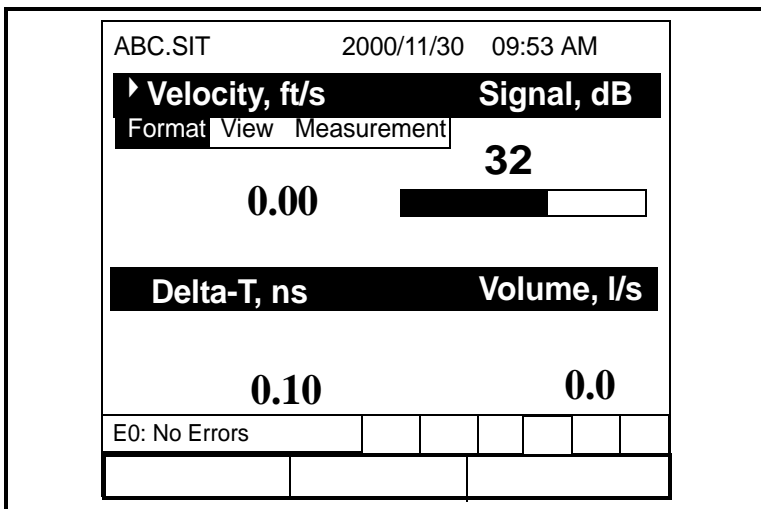

Figure 6: The Display Menu
2. Press [ENTER] to open the *Display Menu*. The screen appears similar to Figure 6 below.